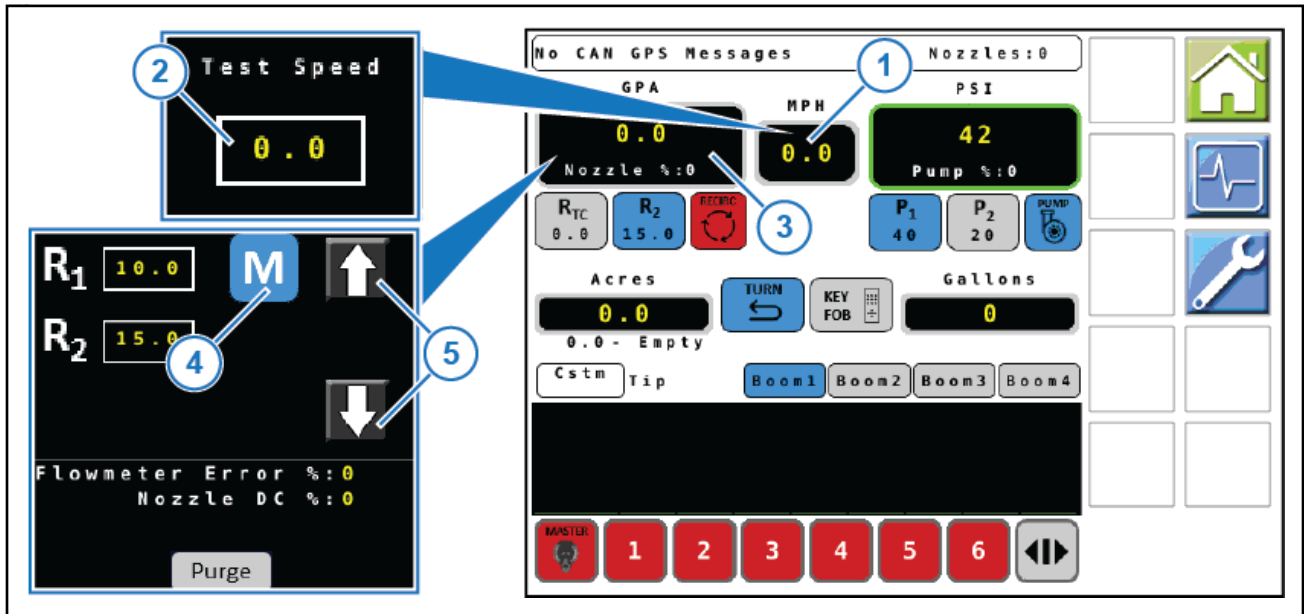

Figure 27: Boom Shutoff Dry Test
2. Select the speed box (Figure 27, Item 1).
3. Set a test speed (Figure 27, Item 2).
4. Select the rate box (Figure 27, Item 3).
5. Select M (Figure 27, Item 4) and then use the arrow icons (Figure 27, Item 5) to change the rate.